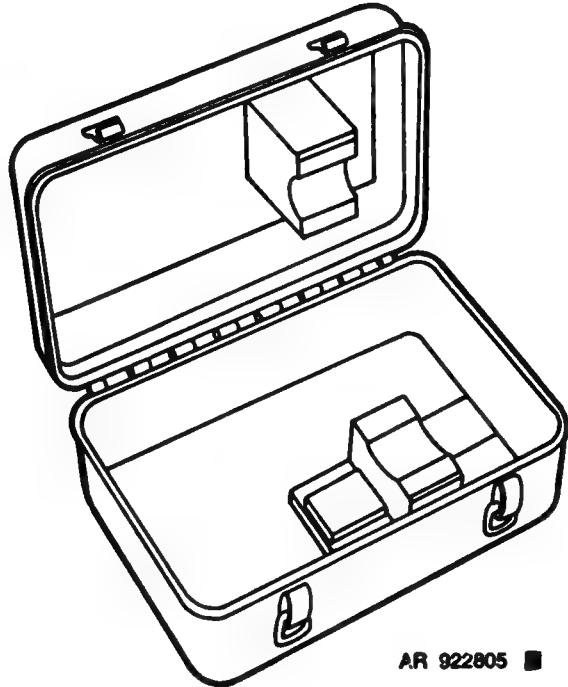

Figure 72. Panoramic telescope packing chest M27.
(2) If the telescope has not been carried with the weapon, remove it from the packing chest M27 (fig. 72).